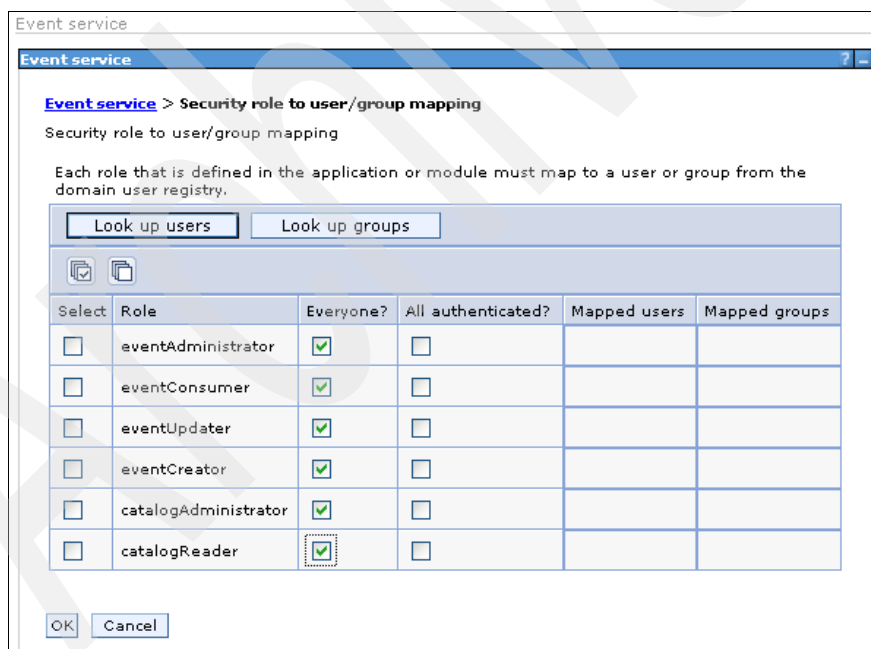

Figure 6-36 Security role to user/group mapping
- In the Event service panel (Figure 6-36), select everyone for all the roles listed. Click **OK**.